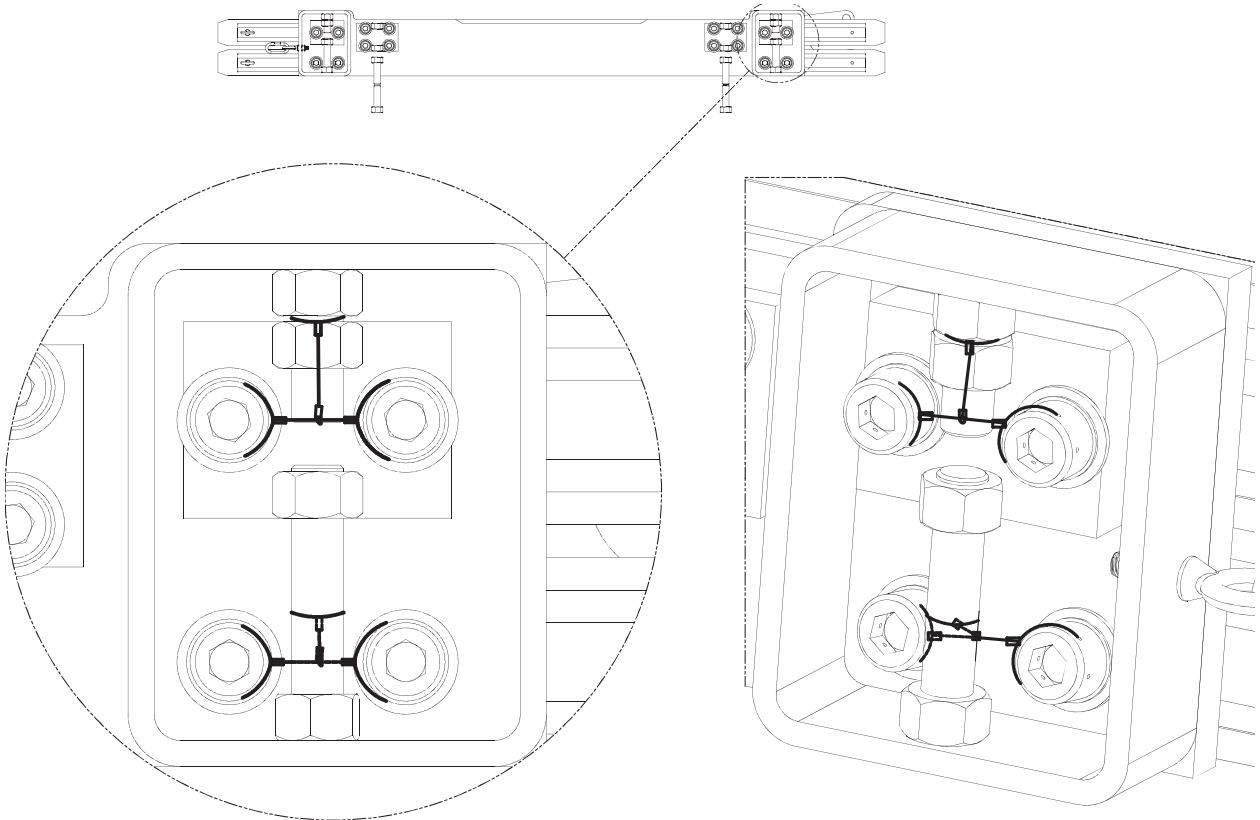

Figure 2: Adjuster Bolt Safety Wire Detail
2. Install safety wires on the adjuster bolts (see Figure 2 on page 3) as follows: